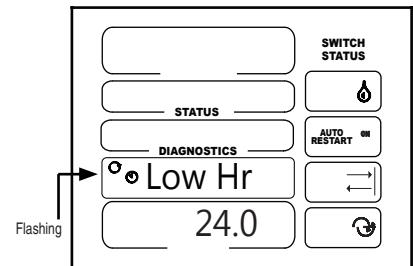

Figure 25-3
Low hours per revolution is the number of hours required for the machine to make one complete revolution at a percentage timer setting of 100% (maximum speed of the machine). This value found on the VChart Report is specific to the machine and used to calculate hours per revolution for different percentage timer settings. Range is 0.1 to 240.00 hours and default value is 24. See figure 25-3.
1. Low HR should be flashing. See figure 25-3.